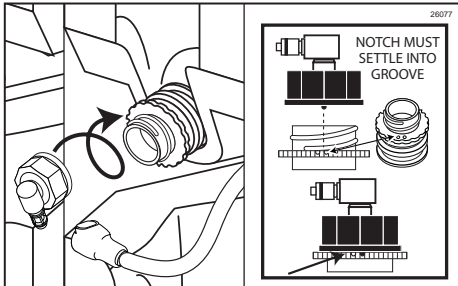

Figure 72
24. Connect each Syrup Bag Adapter to the syrup bag fitments. The notch of the black collar must settle into one of the grooves on the fitment in order to secure the connection. (See Figure 72.)